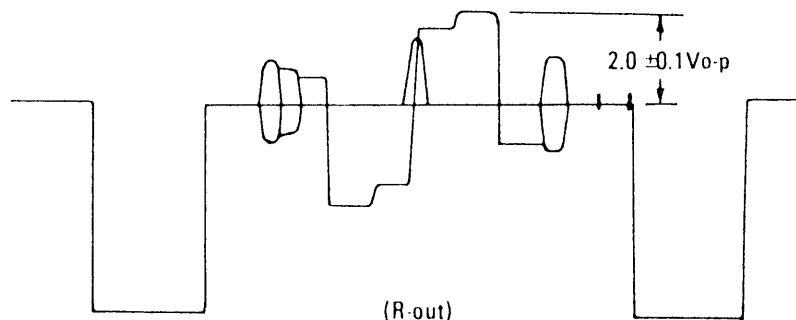

Fig. 12
5. Adjust SUB-COLOR control (VR402) to achieve $2.0 \pm 0.1V_{o-p}$ (Fig. 12).